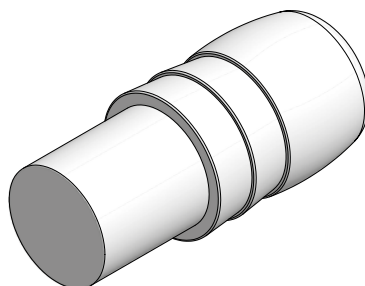

Fig. 77.1
- FB active stop XT 20 (Fig. 77.1 and page XT-78), consisting of a tapered fibre-reinforced concrete core and an integrated expansion seal, or